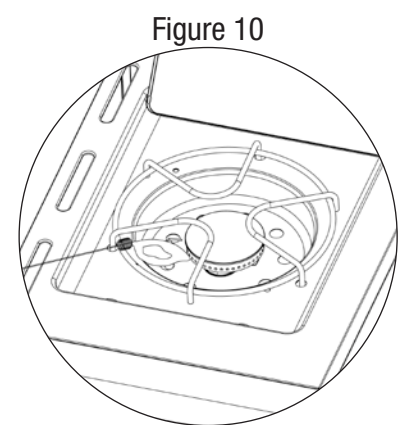

Figure 10
7. If igniter does not light burner, use a lit match secured with the lighting rod provided to light burners manually. Position the lit match near side of the burner. (Figure 10)